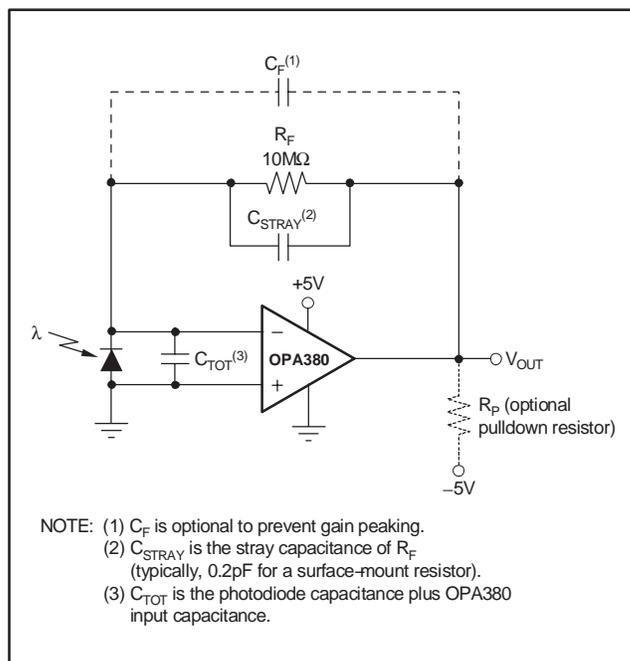

Figure 5. Transimpedance Amplifier
(1) 300-hour life test at 150°C demonstrated randomly distributed variation approximately equal to measurement repeatability of $1\mu\text{V}$.
(2) Tested with output connected only to R_P , a pull-down resistor connected between V_{OUT} and $-5V$, as shown in Figure 5. See also applications section, *Achieving Output Swing to Ground*.
The key elements to a transimpedance design are shown in Figure 5: